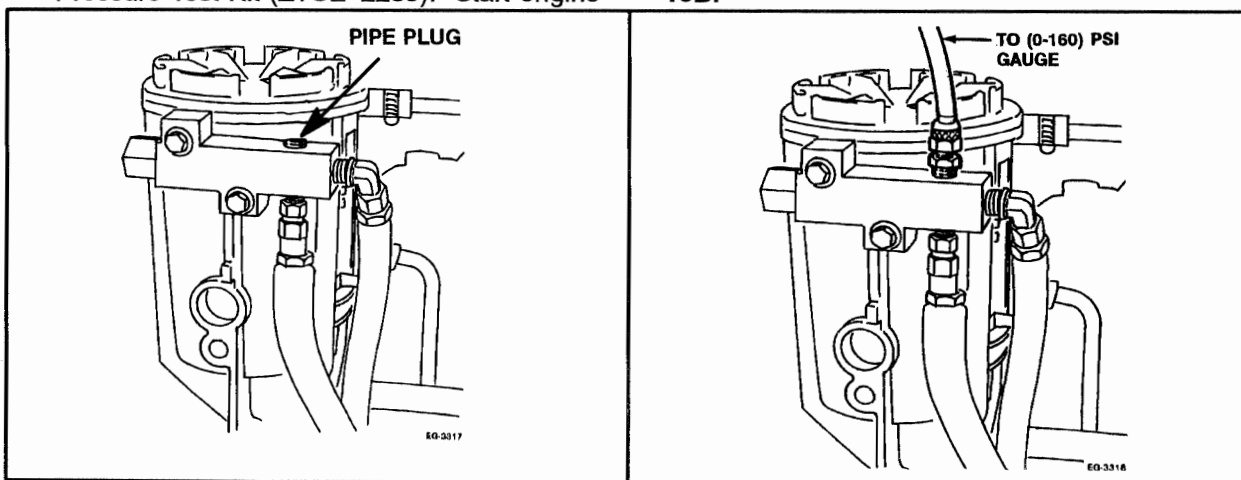

Figure 2.3-10. – Fuel Pressure Tap Location
1. Remove 1/8" pipe plug located on the fuel regulator block. (Figure 2.3-10.) Install 1/8 inch (3 mm) pipe fitting in place of the pipe plug.
2. Connect a line (Figure 2.3-10.) from the fitting to the 0–160 PSI gauge of the Model D-200 Pressure Test Kit (ZTSE-2239). Start engine